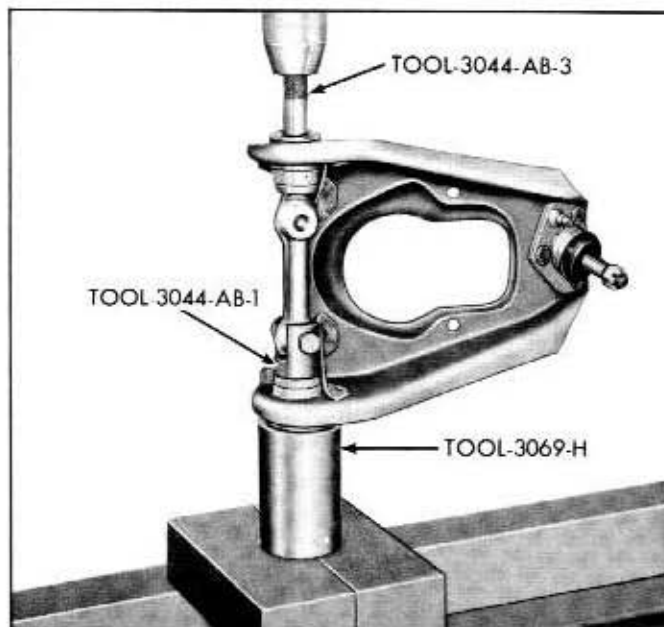

Fig. 3A-20—Removing First Inner Bushing from Upper Arm (60C-420)
5. Repeat steps 3 and 4 to remove the other bushing from the inner shaft. See figure 3A-21.